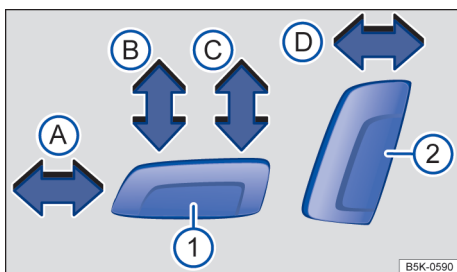

Fig. 66 Driver seat: Electrical controls to move the seat backward or forward, and adjust seat cushion height and backrest angle (if equipped).
Press the switch in the direction of the arrow → fig. 66:
- ①** Adjust the lumbar support. Push the lever forward or pull it backward.
- ②** Adjust the backrest angle. Lean forward and turn the adjuster wheel forward or backward. If the vehicle has an electrical control for adjusting the backrest angle, see → **fig. 66 ②**.
- ③** Adjust the seat height. Move the lever several times up or down.
- ④** Move the front seat forward or back. Pull the lever up and move the front seat. The front seat must lock in place after the lever is released!